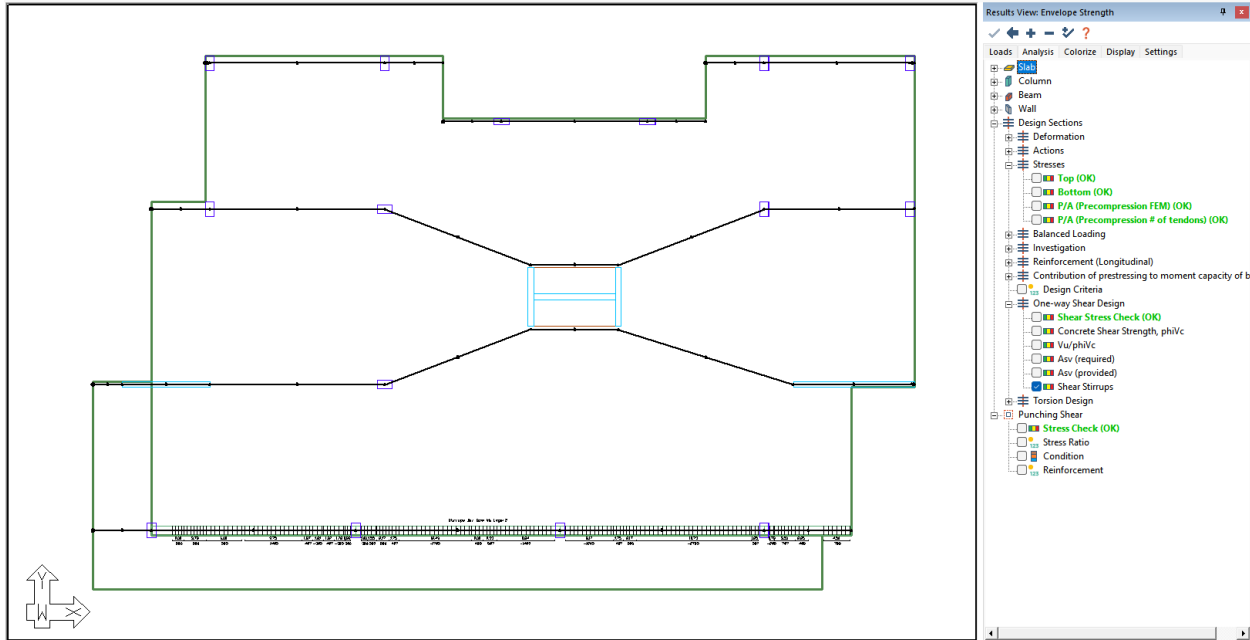

FIGURE 9-118
- We can see the design sections are either green (OK) or blue (Reinforce). Blue support sections show the location where one-way shear reinforcement must be added for the beam to remain code compliant for the shear check.
- Check the box next to **Shear Stirrups** by clicking on it. The user should now see the stirrups along the support line with spacing as shown in **FIGURE 9-118**.